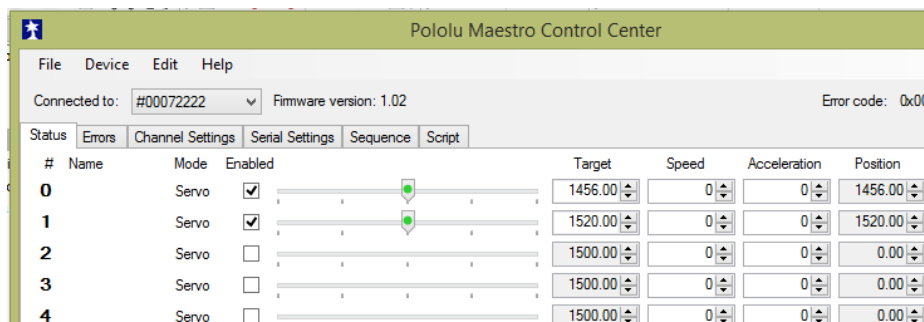

Figure 2.1: Status tab of the Maestro Control Center
3. Open Maestro Control Center and make sure that the channels you intend to use are enabled on the Status tab (see figure 2.1).